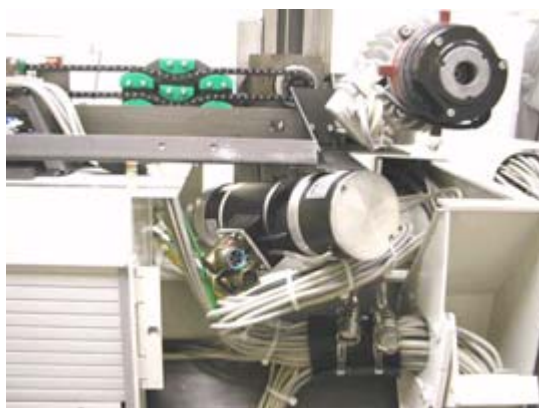

Fig. 99: M90
- Press the tied cables to the side to replace the motor, see \(Fig. 99 / p. 88\).